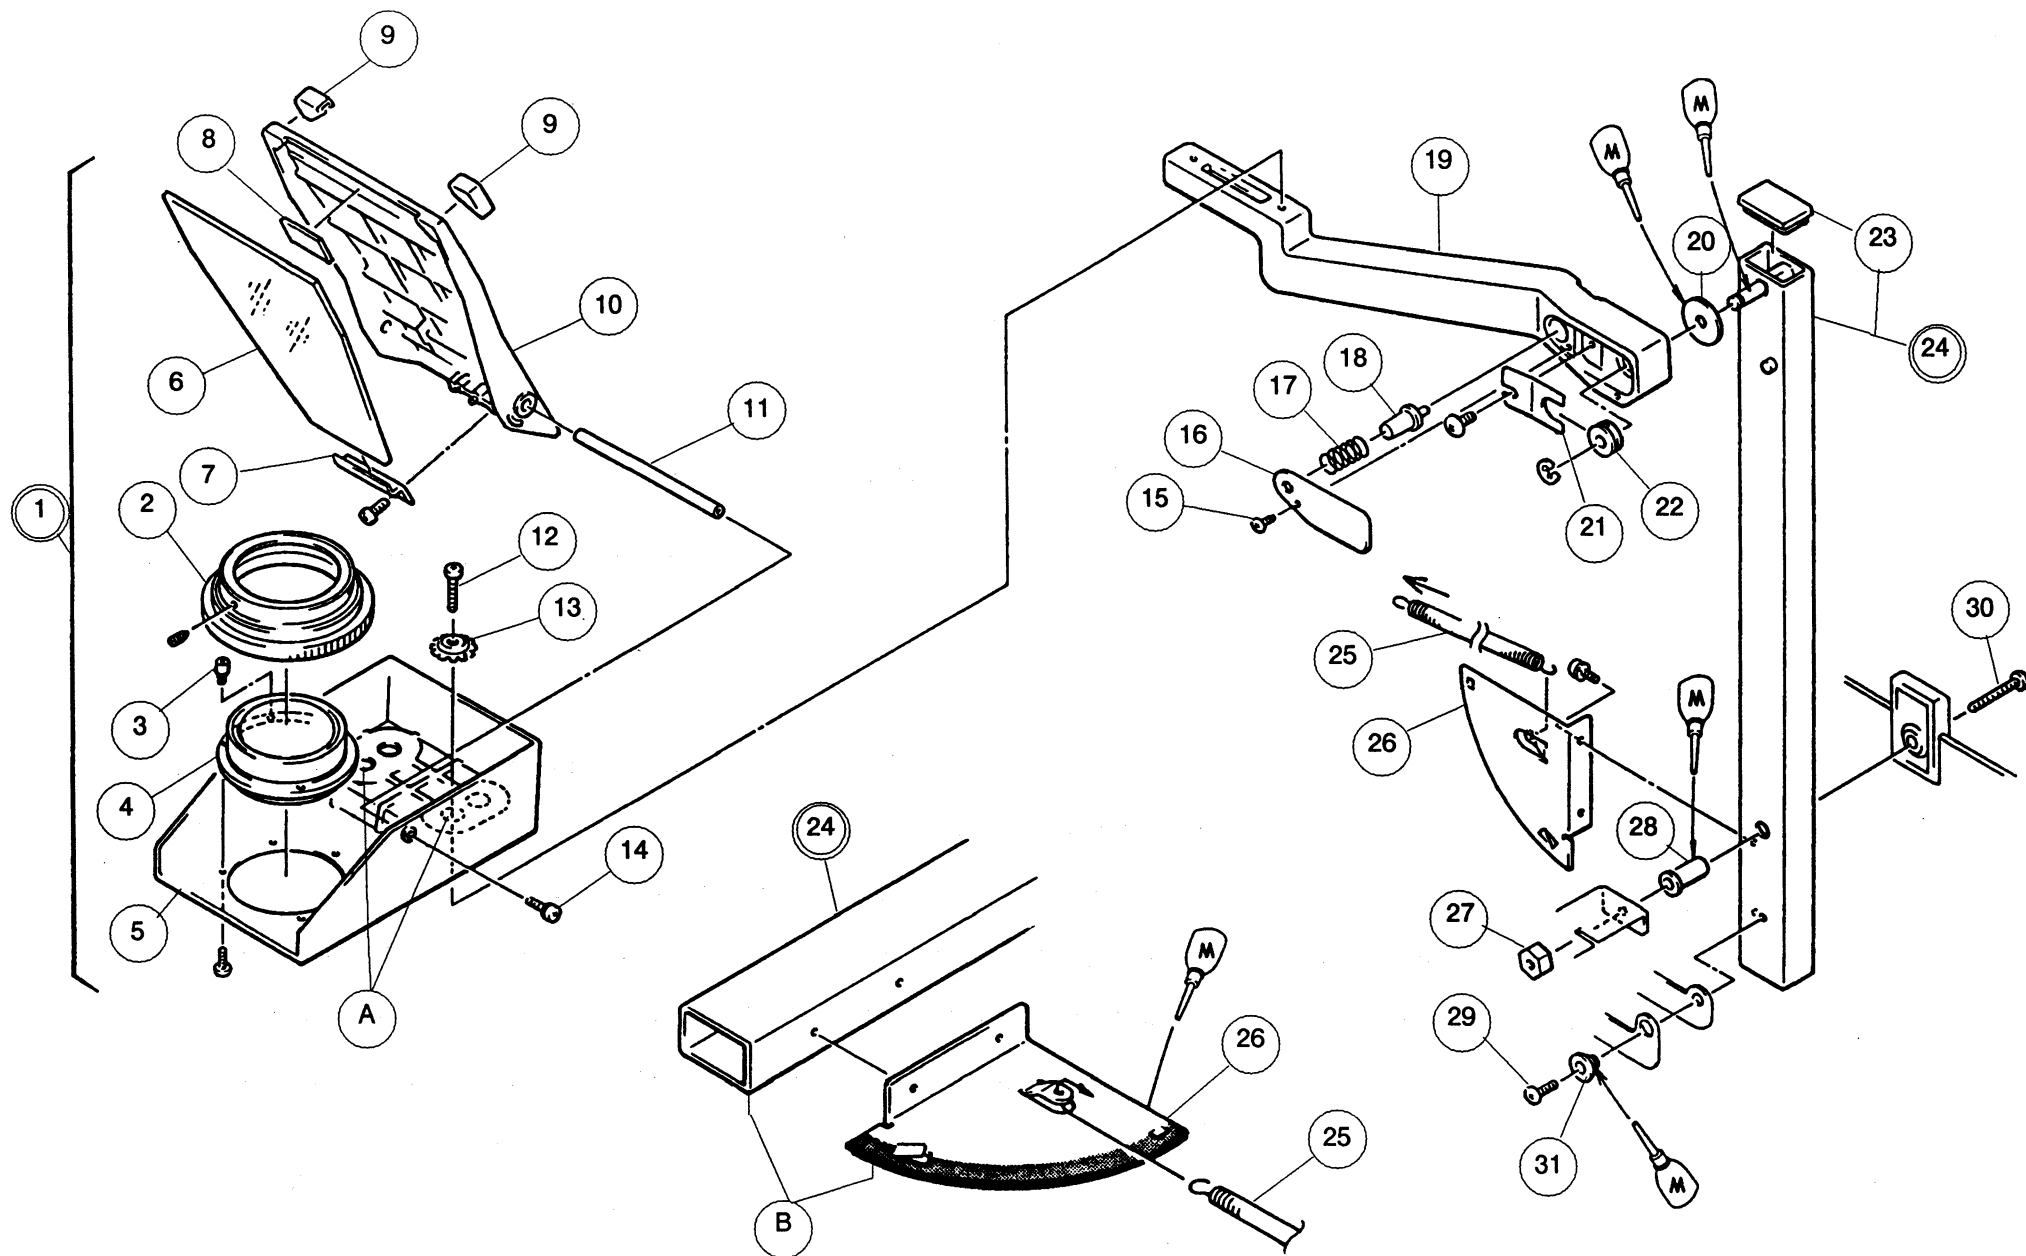

Figure 6
1. Remove the two screws (12) and washers (13) that secure the lens head assembly (1) to the lens head arm (19). (Fig. 6)
3. Raise the stay assembly (24) and unhook the stay spring (25) to release excess tension. (Fig. 6)
4. Close the stay assembly (24) and remove the power lock screw (29) and link washer (31). (Fig. 6)
5. Remove the stay nut (27) and screw (30). (Fig. 6)
Note: For further disassembly refer to figure 6.
1. When installing the lens head to the arm, use the screw holes indicated by A in fig. 6.